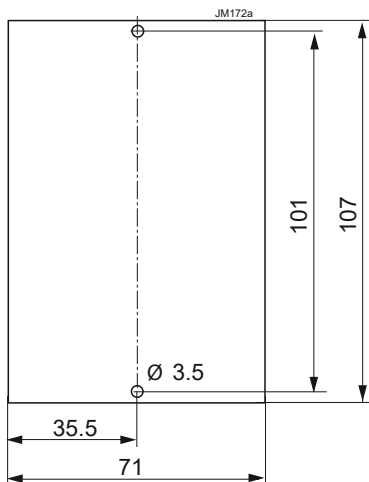

Fig. 20
- PCB isolation pads for easy and safe PCB-mounting; see fig. 20